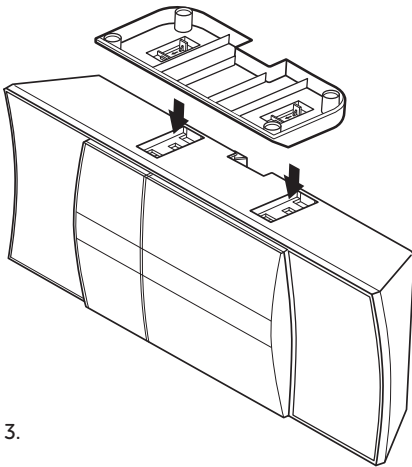

Fig 3.
3. Place the stand with the sloped edge facing you over the two cut outs and lower the four hook shaped prongs into the four deeper cut outs, and press down. **(Fig 3)**